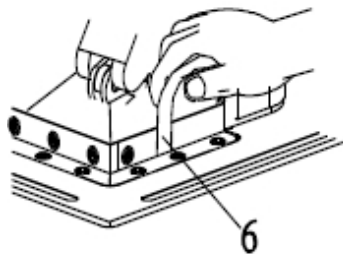

Fig. 14: Cutting gap detection via the thickness gauge
Step 10: Use the thickness gauge to adjust the cutting gap (Fig. 14).